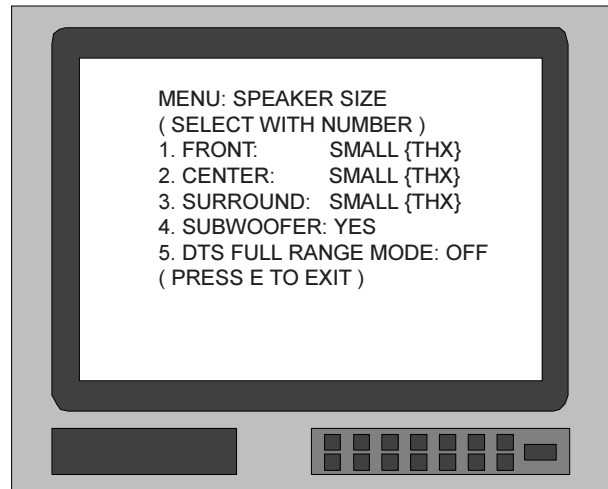

Figure 8
2. Press pushbutton number 1 on the Remote Control to access the SPEAKER SIZE MENU, which will appear on the Monitor/TV screen. Refer to Figure 8.